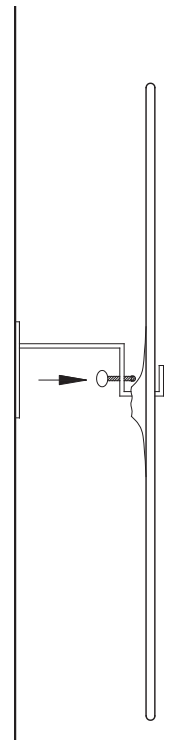

Figure 3. Tighten thumb screw against glass *Pool* object
- 6 Reaching between the wall and the *Pool* wallpiece, carefully tighten the thumbscrew so that it holds the *Pool* wallpiece as plumb and flat as possible (*Figure 3*). Do not overtighten this screw or you risk chipping or cracking the glass.